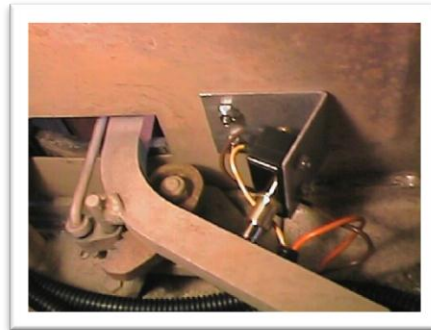

Figure 4 Brake Switch
18. Mount the brake switch using the two machine screws and lock nuts (Figure 4).